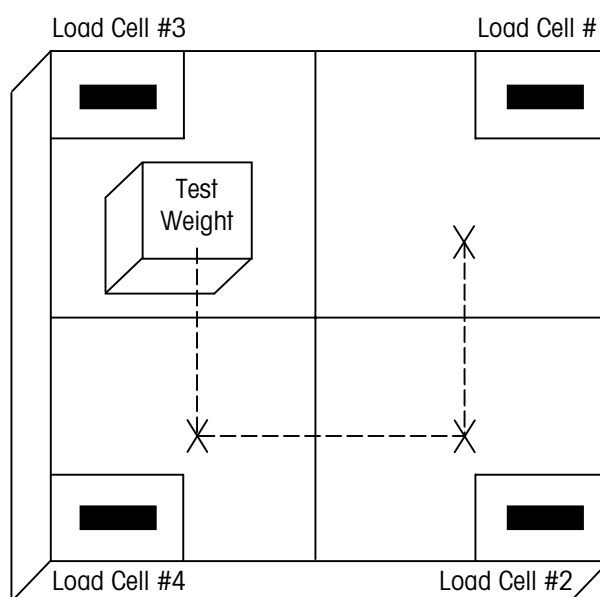

Figure 4-1: Shift Adjust
4. In the standard weighing mode, check the shift adjustment of each scale platform by successively placing a 1000 pound test weight in each corner (see Figure 4-1). Note and record each weight value.